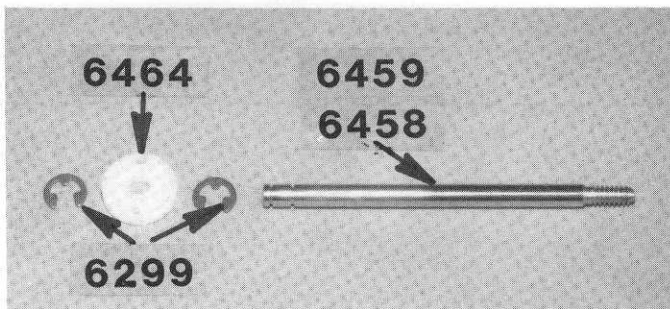

Fig. 105
□ **Fig. 105 & 106** It's easier to build all four shocks at the same time, so take all four of the #6459 and #6458 shafts and install one of the E-clips on each shaft, as shown. The shock parts are in Bags 7-9 and 7-10.